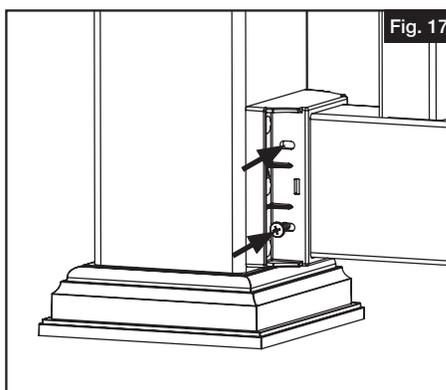

Fig. 17
- b. Install #10 x 1" screws in all pre-drilled holes (Fig. 17).